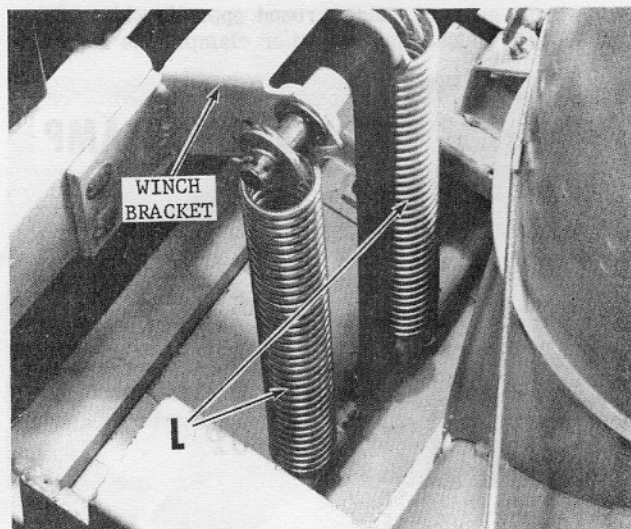

Fig. 14
RAISE Snow Thrower to highest position with tractor lift winch. Attach lift springs (L) to winch bracket as shown (Fig. 14).